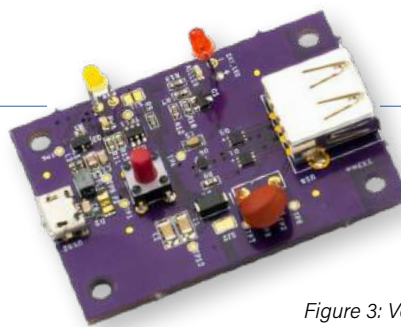

Figure 3: Version 2 requires an external 5 VDC power supply.
2. An externally powered version because it is difficult to ship LiPo-based batteries and devices that contain them, and we wanted to sell the USB Killer Detector online. It requires a Micro USB cable of providing 5 V (**Figure 3**). Use a phone charger for power, not your computer.